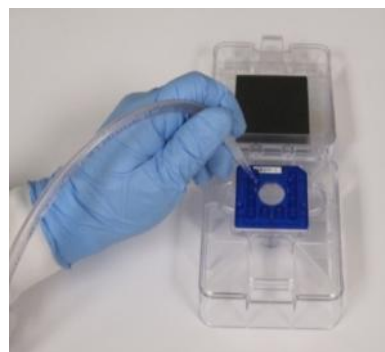

Figure 1. Chip aspiration and vacuum line.
1. Use a pipette tip attached to a vacuum line to aspirate all fluid from the chip wells. **DO NOT** run the tip over the central region of the detection window. See **Figure 1**. (For details on how to setup a vacuum line refer to the Chip Well Aspiration Using a Vacuum section of this user guide.)